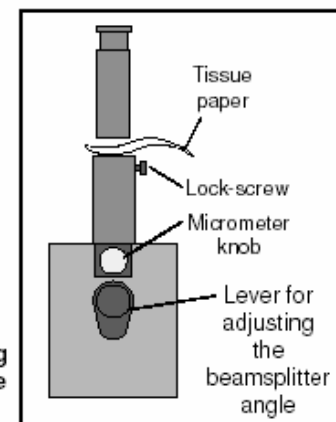

Figure 13: Looking for the Beam Image
- Loosen the lock-screw on the microscope. As shown in Figure 13, remove the microscope and place a piece of tissue paper over the tube to locate the beam. Adjust the beamsplitter angle and the micrometer knob to center the point image in the tube of the microscope.